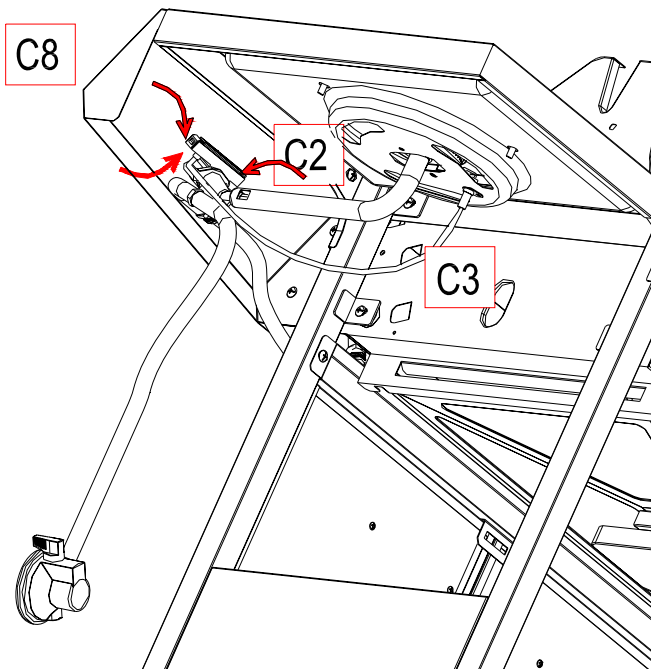

Fig 14c
3. Loose the M4\*8 screw at the bottom of the Side Burner (C4) first. Then align the burner venturi of Side Burner (C2) with the side burner valve. When alignment is done, fix the Side Burner (C2) on the Side Burner Assembly (C4) by the M4\*8 screw and tighten it as fig 14c.